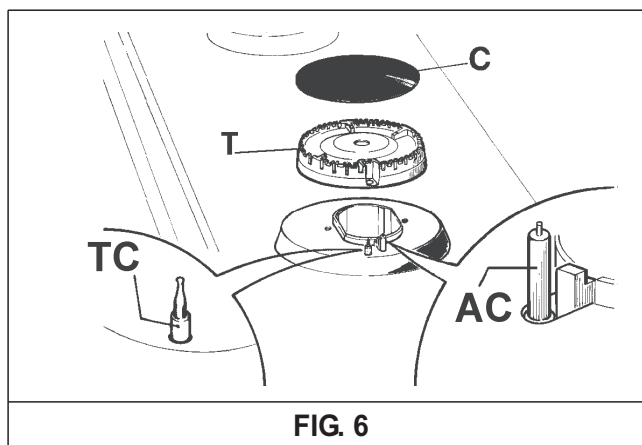

FIG. 6
Periodically wash the hob, pan stands, enamelled burner covers "C", and burner heads "T" (see fig. 6) must also be washed and the ignition elements "AC" and safety cut-off sensors "TC" (see fig. 6) must be cleaned. Do not wash them in the dishwasher. Following this, all parts should be thoroughly rinsed and dried. Never wash them while they are still warm and never use abrasive powders. Do not allow vinegar, coffee, milk, salted water, lemon or tomato juice to remain in contact with the enamelled surfaces for long periods of time.
- ***Check that burner head slots "T" (fig. 6) have not become clogged by foreign bodies.***
- ***Check that enamelled burner cap "C" (fig. 6) is correctly positioned on the burner head. It must be steady.***